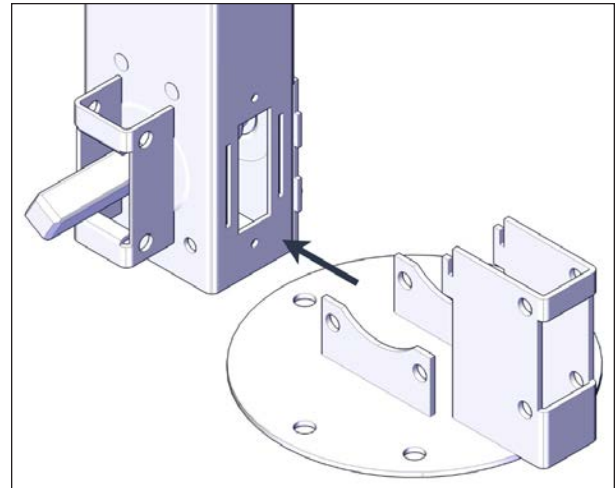
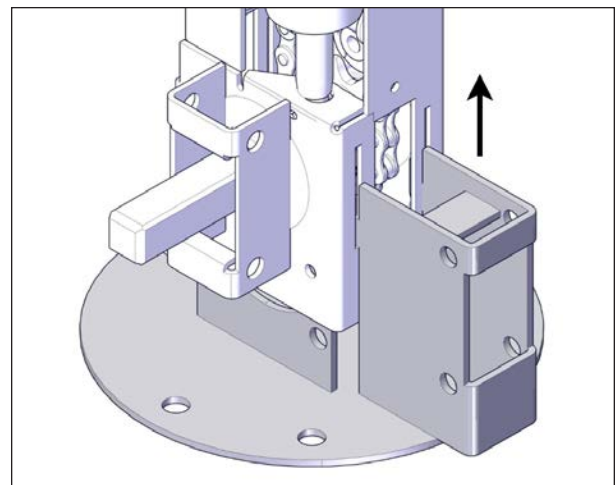

FIGURE 33: FOOT BRACKET INSTALLATION
FIGURE 34: INSERT LEGS IN SLOTS
2. Install a foot bracket to the non-motor side jack. Make sure to align the foot bracket on the right side of the U-frame shaft as shown, see Figure 33.
3. Slide the alignment vertical legs of the foot in the bottom alignment slots of the jack, see Figure 33 and Figure 34.
4. Push upwards to lock in place, see Figure 34. Make sure to get a full contact with the bottom plate. Use a rubber mallet if necessary.